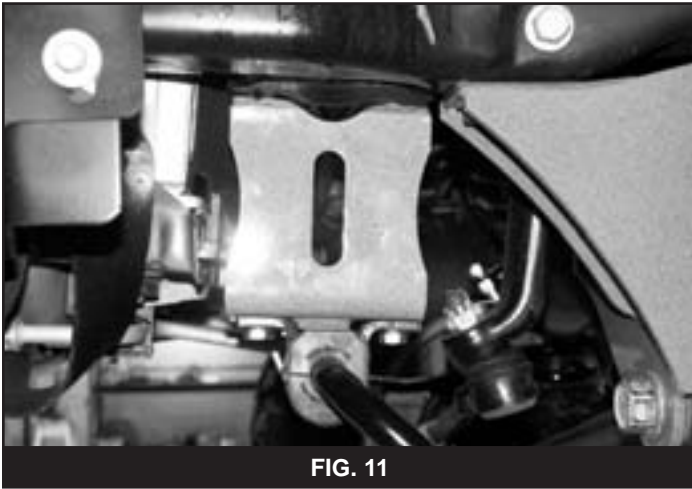

FIG. 11
30. With both radius arms relocated, reattach the upper radius arm-to-axle mounting bolts. Leave loose. Note: All (6) radius arm bolts will be torqued with the weight of the vehicle on the axle.
35. Attach the sway bar to the new drop brackets in the correct orientation with the 3/8" hardware from bolt pack #422. Torque hardware to 30 ft-lbs (Fig 11).